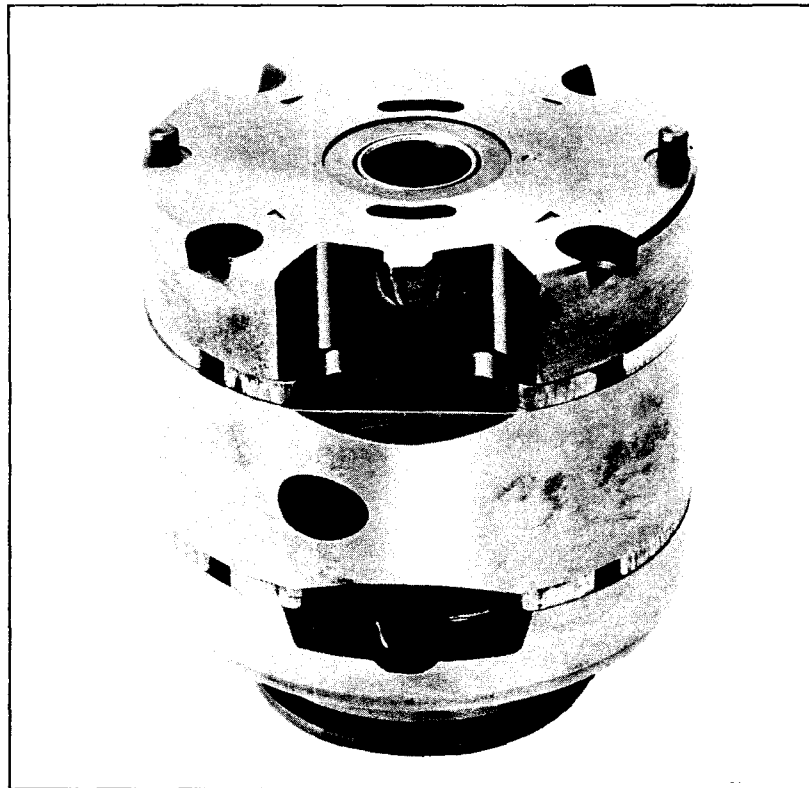

Figure 21. Cartridge ready for installation of socket head screws.
g. Lubricate the exposed surface of the rotor and vanes with system fluid. Locate the scribe mark on the inlet support plate and flex side plate. Hold the inlet support plate and flex side plate together and assemble over the cam ring and rotor with scribe marks in-line. (See Figure 21.)